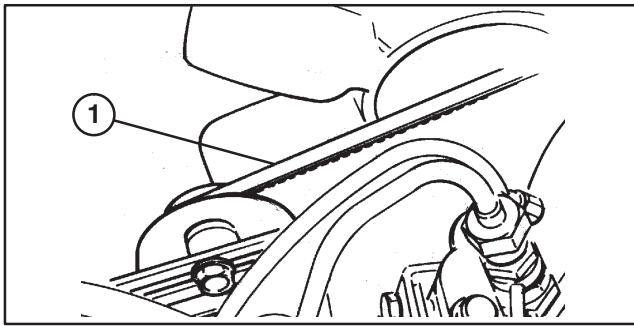

Figure 57
2. If only the filter is to be changed, remove reservoir cap and insert reservoir plug (Fig. 57), to block outlet.
Engine Belt (Fig. 57)